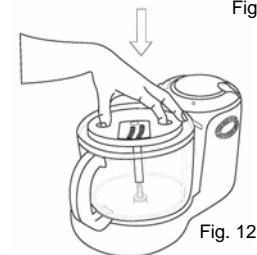

Fig. 12
- Using the finger holes in the blade holder, fit it over the spindle and press firmly into place as indicated. (Fig. 12)